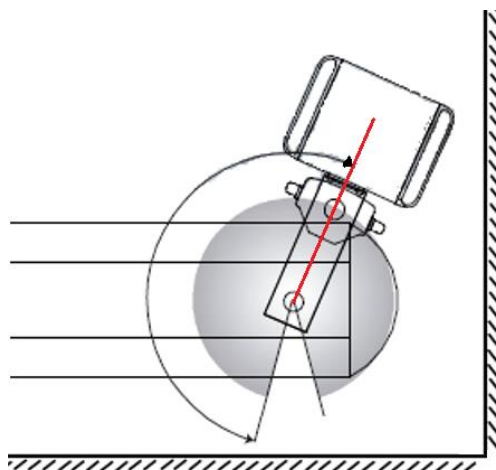

Fig.12 Fixing the right-hand pivot stop of a column with extension arm.
- If necessary, adjust the left-hand rotation. To do this, follow the steps indicated in this point, bearing in mind that to set the left-hand stop you must bring the column to the maximum desired position for the left-hand turn and then fit the Allen screw (2) previously removed as shown in figure 12.